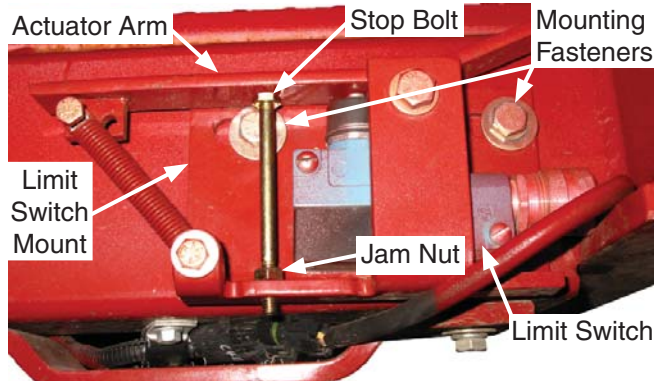
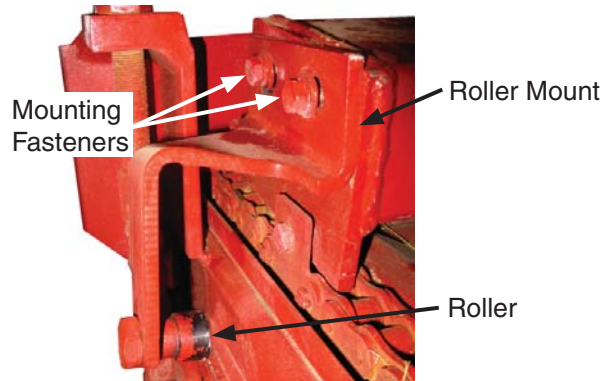

Figure 35 - Limit Switch - 15 Adjustment
Figure 36 - Push Off Bar Roller Adjustment
2. Adjust the position of the limit switch mount (see Figure 35) or the Roller (see Figure 36).